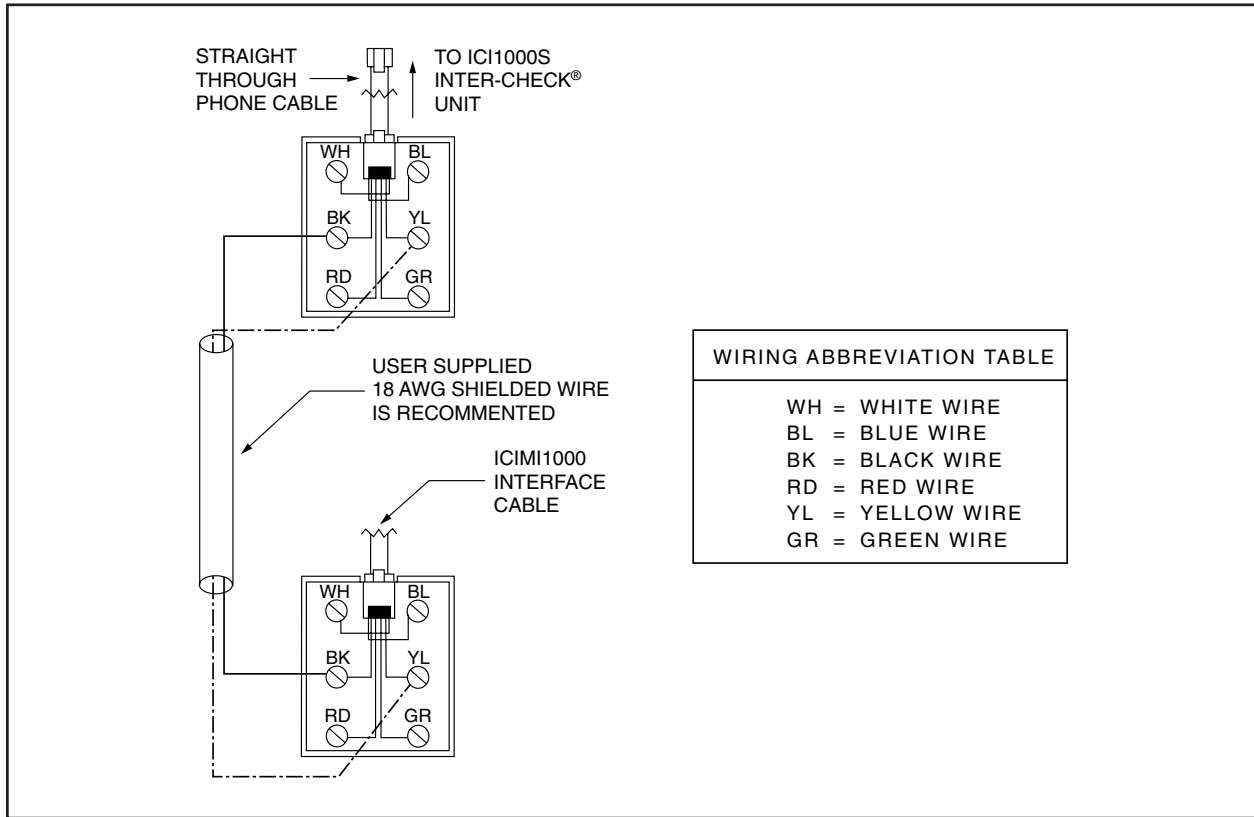
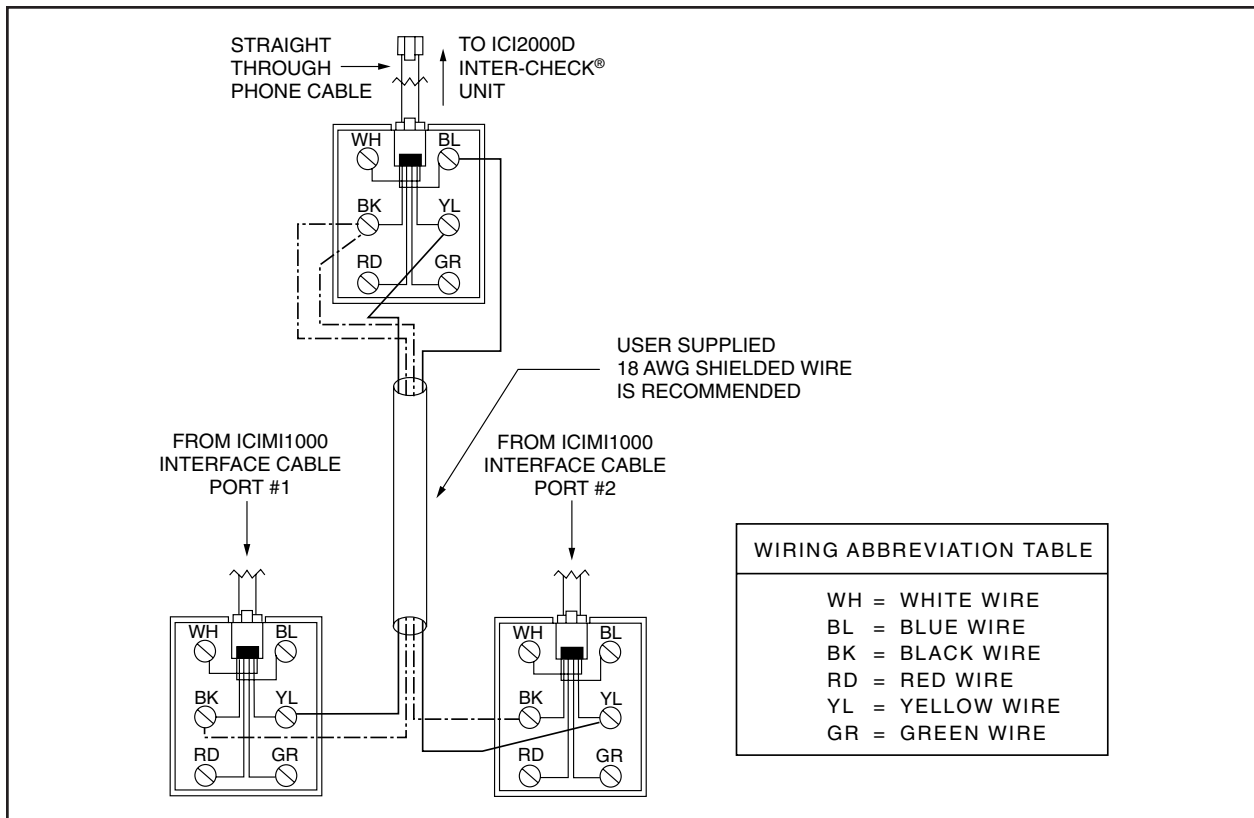
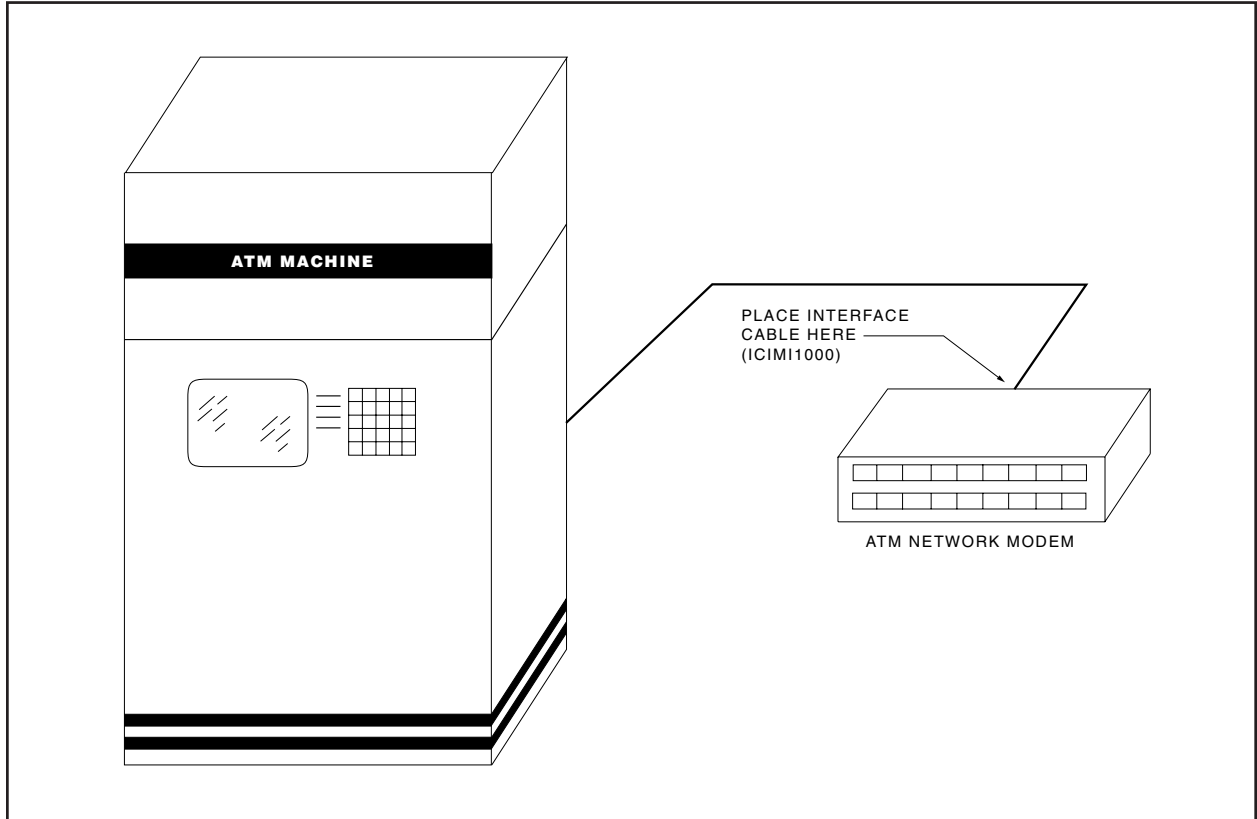

Figure 1. Wiring Diagram for One Cash Register or One ATM Machine
Figure 2. Wiring Diagram for Two Cash Registers or Two ATM Machines
Figure 3. ATM Machine Interface Cable Installation
4. If the Pelco Inter-Check® is to be located more than four feet from the printer, you can run wiring to where the Inter-Check® is located using the IC1000 wiring kit (supplied with the Inter-Check® unit). Refer to Figure 1 or Figure 2 to properly configure the wiring for the Inter-Check® unit.
Refer to the wiring configurations shown in Figure 1 and 2 if you are installing the Inter-Check® unit more than four feet away from the printer. A maximum of 1,500 feet (457.2 m) of 18 AWG shielded wire is recommended (not provided).
The Inter-Check® interface cable connection between the ATM machine and the modem is a fairly easy external connection (see Figure 3). Refer to Figure 1 for the wiring diagram for one ATM machine and Figure 2 for the wiring diagram for two ATM machines.